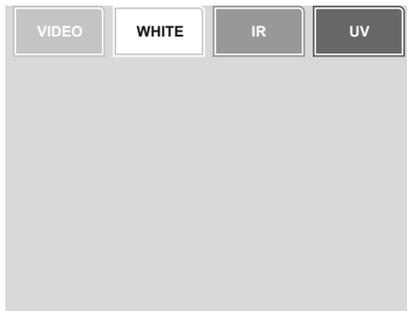
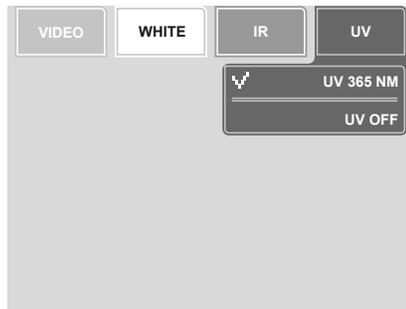

Рис. 2. Operation mode menu
Fig. 10. UV light switching on
At switching on the device, an operation mode menu containing four buttons, such as VIDEO, WHITE, IR, UV appears by default in the upper part of the display (see Fig. 2).
To select the illumination mode, you shall be in the operation mode menu (see Fig. 2). If it is necessary, call this menu by touching the free area of the screen.
Select one of the menu items: **WHITE**, **IR** or **UV** (see Fig. 2).
Place a banknote or a document on the device viewing table (4). Press UV in the operation mode menu (see Fig. 2). Select the UV 365 nm item in the opened submenu (see Fig. 10). The UV-marks on the document surface.